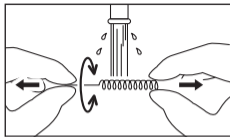

Fig. 33
- After using the Cleaning Wire, clean the wire for 15 seconds or more by pulling its both ends with your fingers while running water all around the wire (Fig. 33).